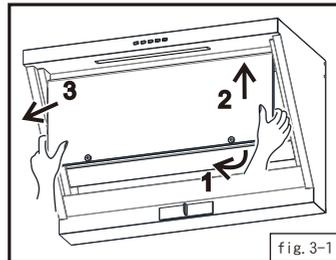

fig. 3-1
- Screw off two fixing buttons underside the leading plate then take the leading plate away. (fig.3-1)